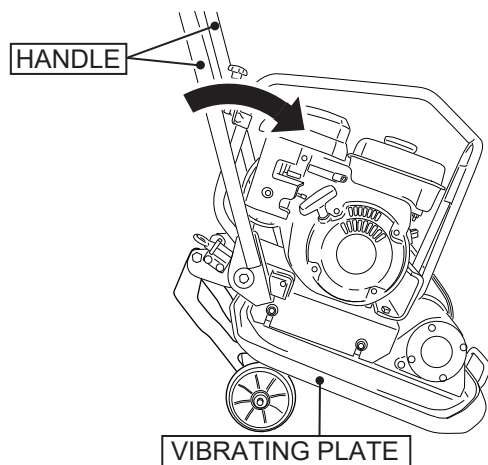

Fig.13
1. Put the plate compactor so that the front end of vibrating plate contacts the ground. Then, tilt the handle to the front until the cart leaves the ground (fig. 13).